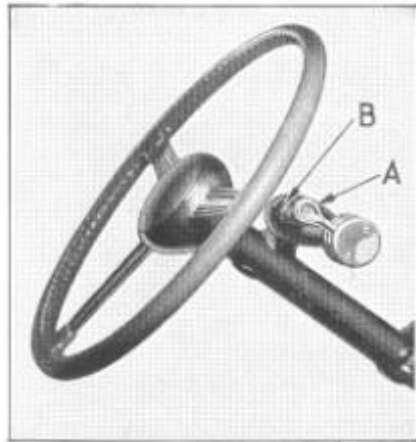

Figure 34
The operation of the Electric Hand is controlled by a small lever attached to a mounting on the steering column, just below the steering wheel. The gear is selected merely by moving the small lever (A), Figure 34, with a finger of the right hand. Then, by depressing the clutch pedal fully to the floorboard, the actual shifting of gears is accomplished.